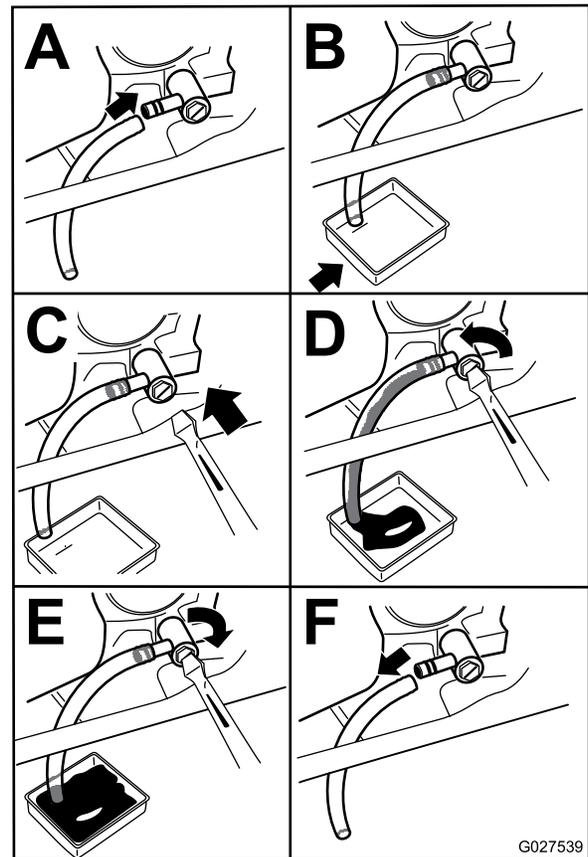

Figure 35
- Drain the oil from the engine (Figure 35).